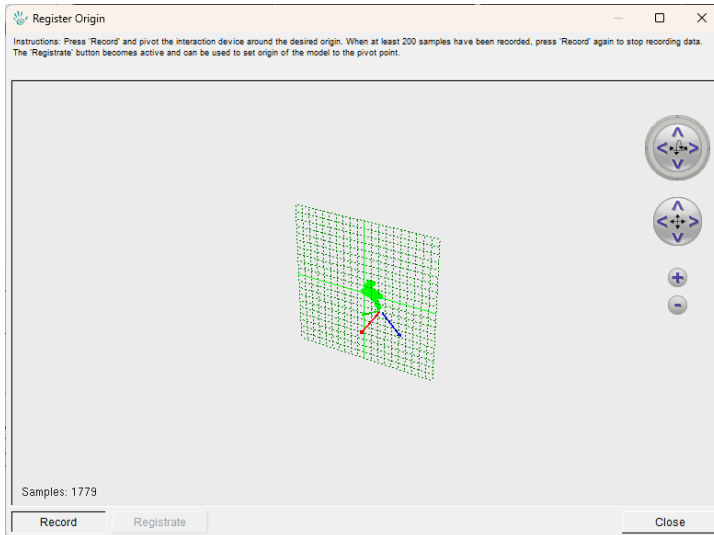

Figure 7.14: Register origin dialog
5. The “Registrate” button will become active (see Figure 7.14). Press this button to calculate a new origin.